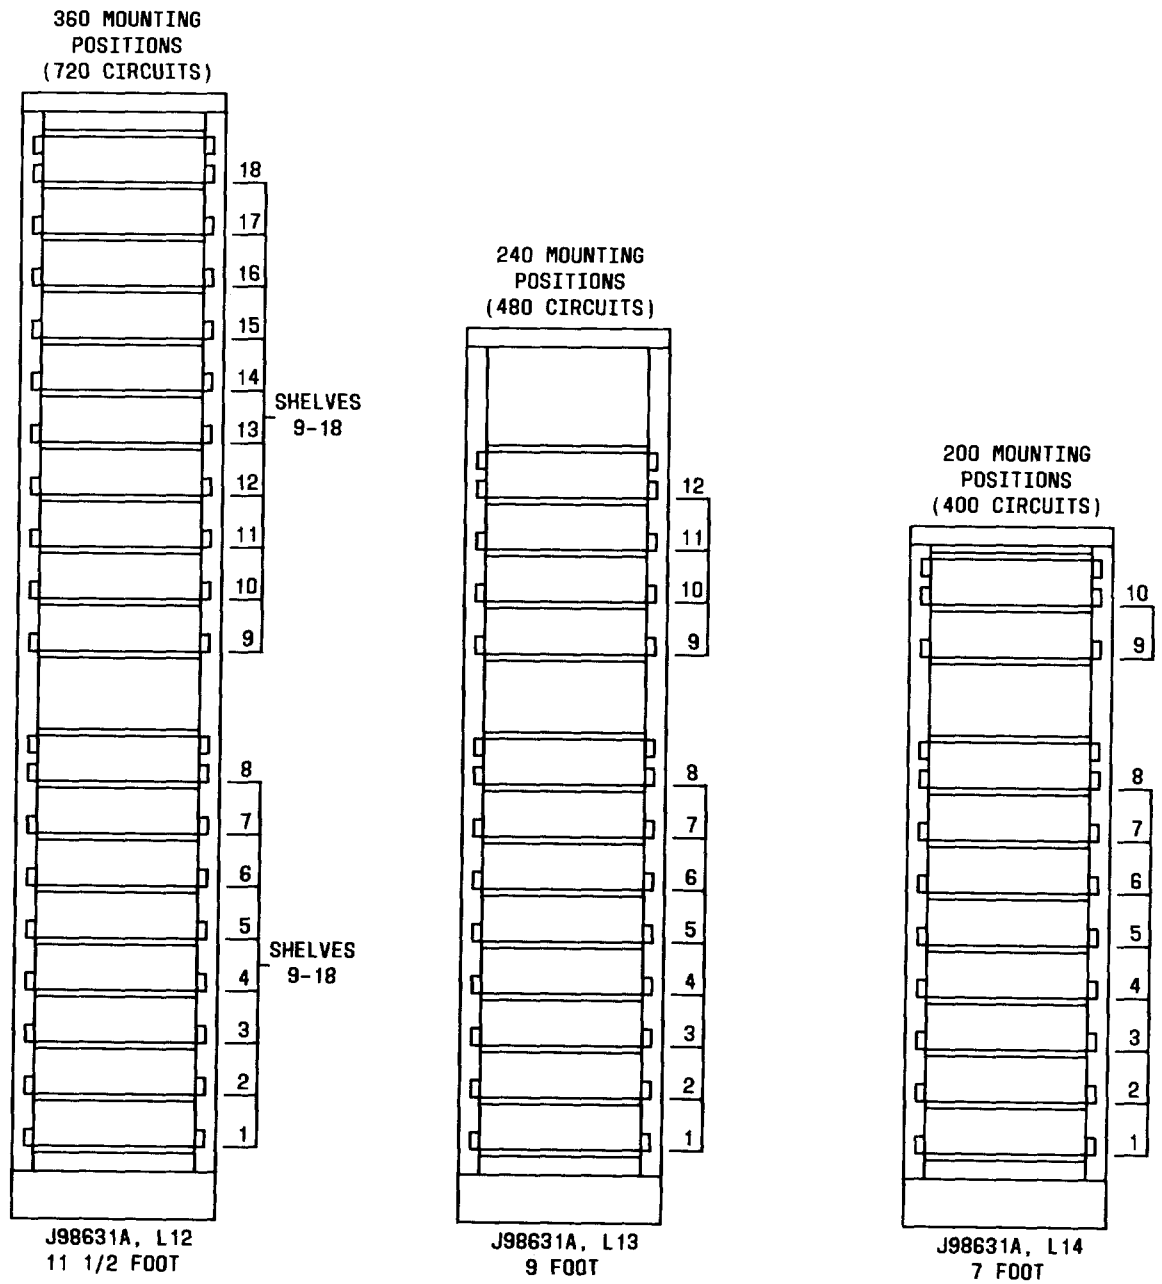

Fig. 1—Mini-REG Frames
2.04 The J98631A, List 12 frame is equipped with 18 mounting shelves, and each shelf has 20 plug-in positions. This is a bay total of 360 plug-in positions or 720 range extension circuits. The J98631A, List 13 is equipped with 12 mounting shelves and has a bay total of 240 plug-in positions or 480 range extension circuits. The J98631A, List 14 is equipped with 10 mounting shelves and has a total of 200 plug-in positions or 400 range extension circuits. The Mini-REG frames are shown in Fig. 1.